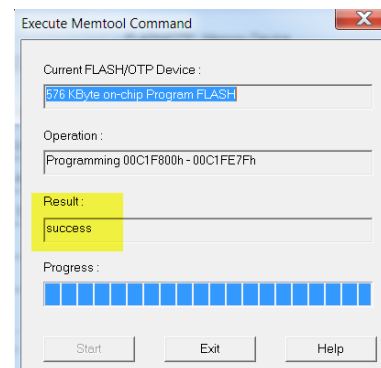

Figure 86
6. Verify memtool displays "*success*" in Figure 86
7. Click "Exit" button in Figure 86